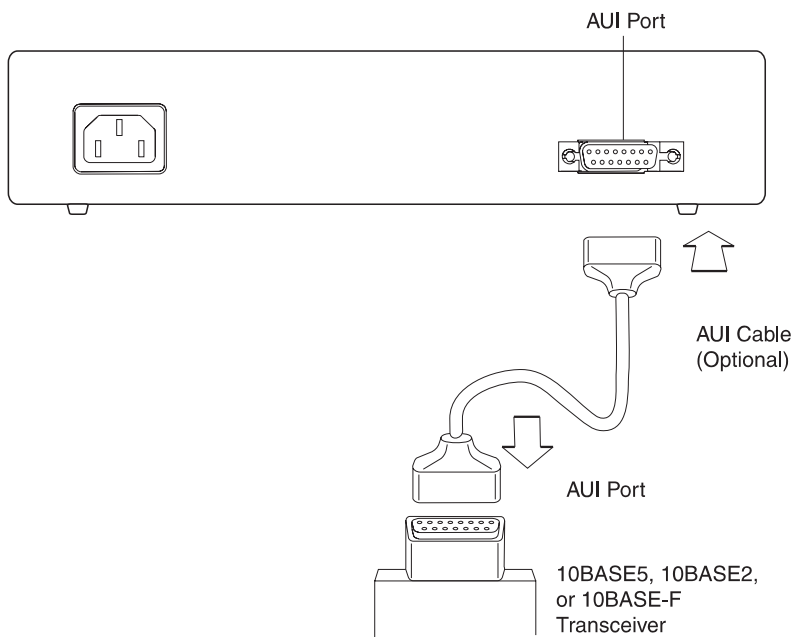

Figure 2-5. Connecting an AUI Cable (Model 016)
- 1 Connect one end of the AUI cable to the AUI port of the Ethernet Desktop Hub and the other end to a 10BASE5, 10BASE2, or 10BASE-F transceiver. See Figure 2-5 on page 2-11 for an illustration of this connection.